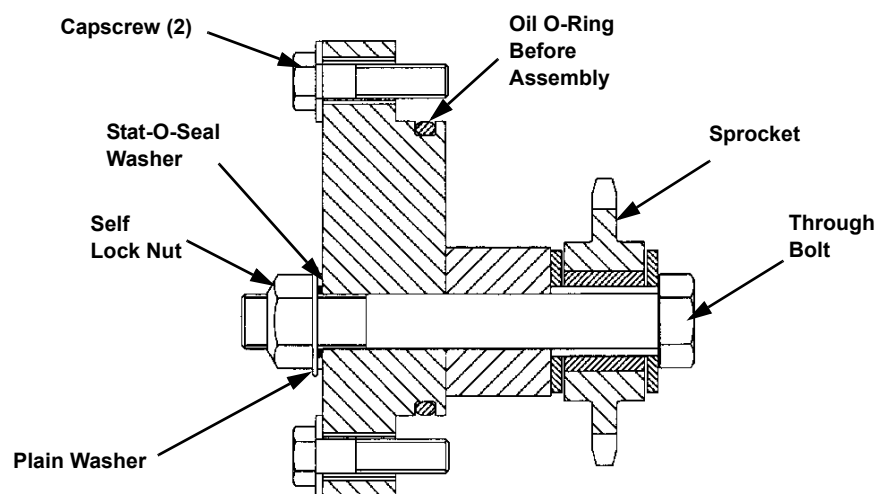
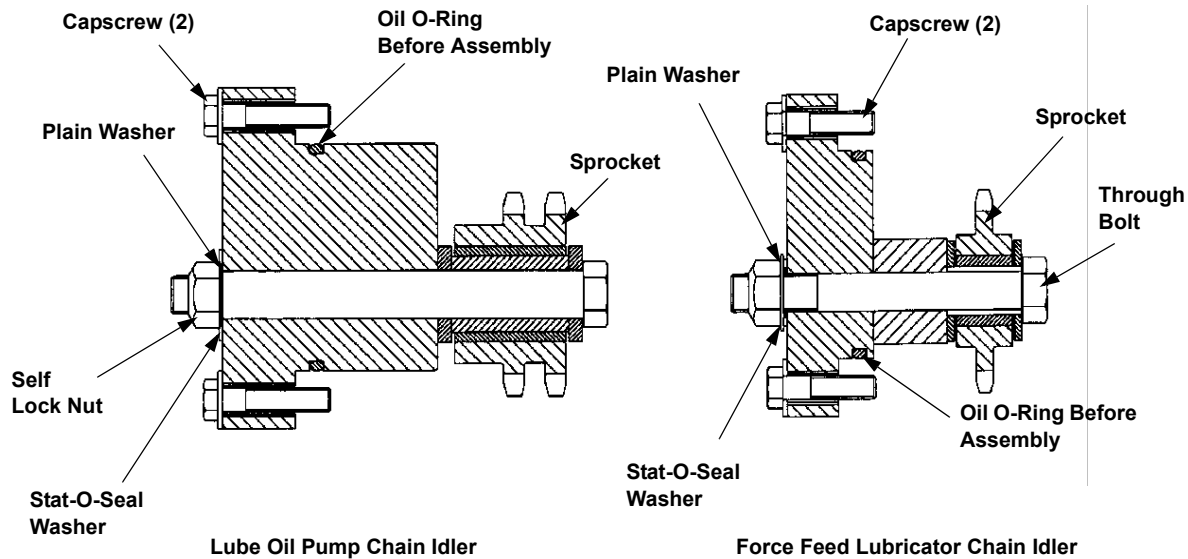

FIGURE 5-20: JGE:H:K:T/2/4 CHAIN IDLER SPROCKET (ECCENTRIC)
FIGURE 5-21: JGE:K:T/6 CHAIN IDLER SPROCKETS (ECCENTRICS)
1. The chain idler sprocket for the JGE:H:K:T/2/4 is shown in Figure 5-20: and the two chain idler sprockets for the JGE:K:T/6 & are shown in Figure 5-21:. Also, the location of the chain idler sprockets will vary for standard rotation versus reverse rotation with standard rotation defined as clockwise when viewed at the drive end (standing at the coupling).